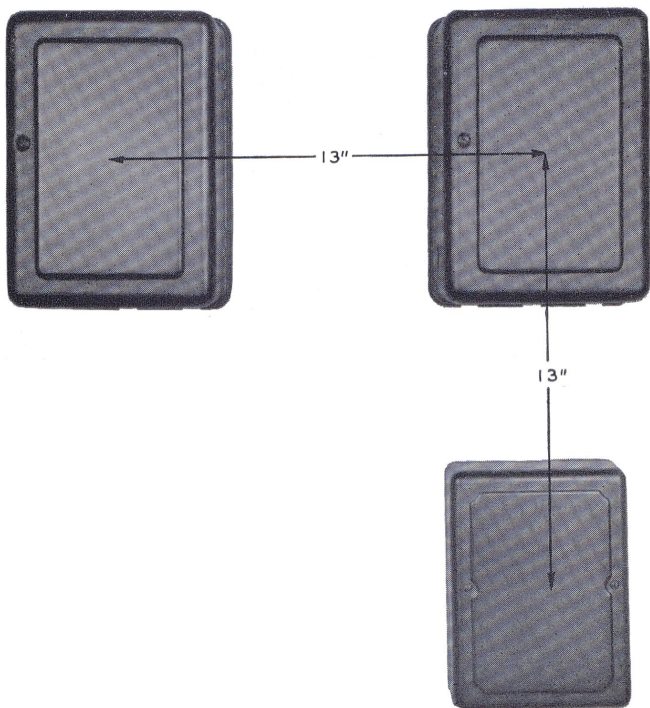

Fig. 2—Subset Separation to Prevent Cross Induction
2.03 Subsets equipped with 425B networks or closed induction coils (101-type with B- or C-type ringers) may be mounted side-by-side, or one above the other without causing crosstalk. Subsets equipped with other types of coils and ringers (open core) should be placed a minimum of 13 inches apart, measured center-to-center, to avoid crosstalk (see Fig. 2).